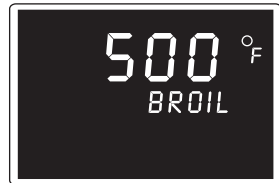

Figure 5
4. The default temperature for the BROIL function is 500°F (This cannot be adjusted). Preheating the Convection Toaster Oven Broiler is not necessary for the BROIL function. (See Figure 5.)
6. When the Timer has counted down to zero (0), the Convection Toaster Oven Broiler will beep and the Operation Light will flash continuously to indicate the program is completed. Open the Glass Door and press STOP. The Operation Light will shut off. Use oven mitts to remove hot pan, Wire Rack and food. Close the Glass Door. Press STOP again to return to the CLOCK function.